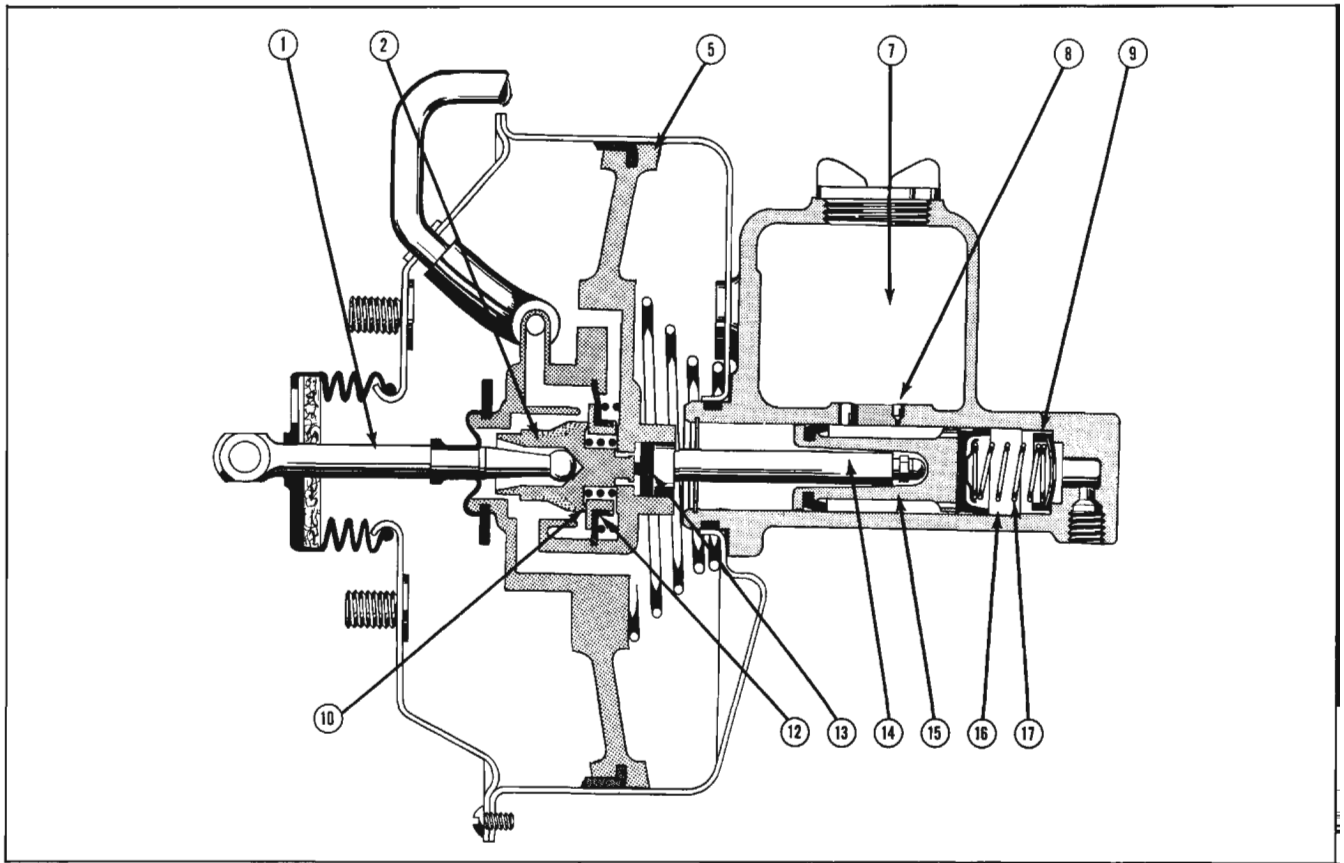

Fig. 7-28 Applying Position
**Applying Position (Fig. 7-28)**